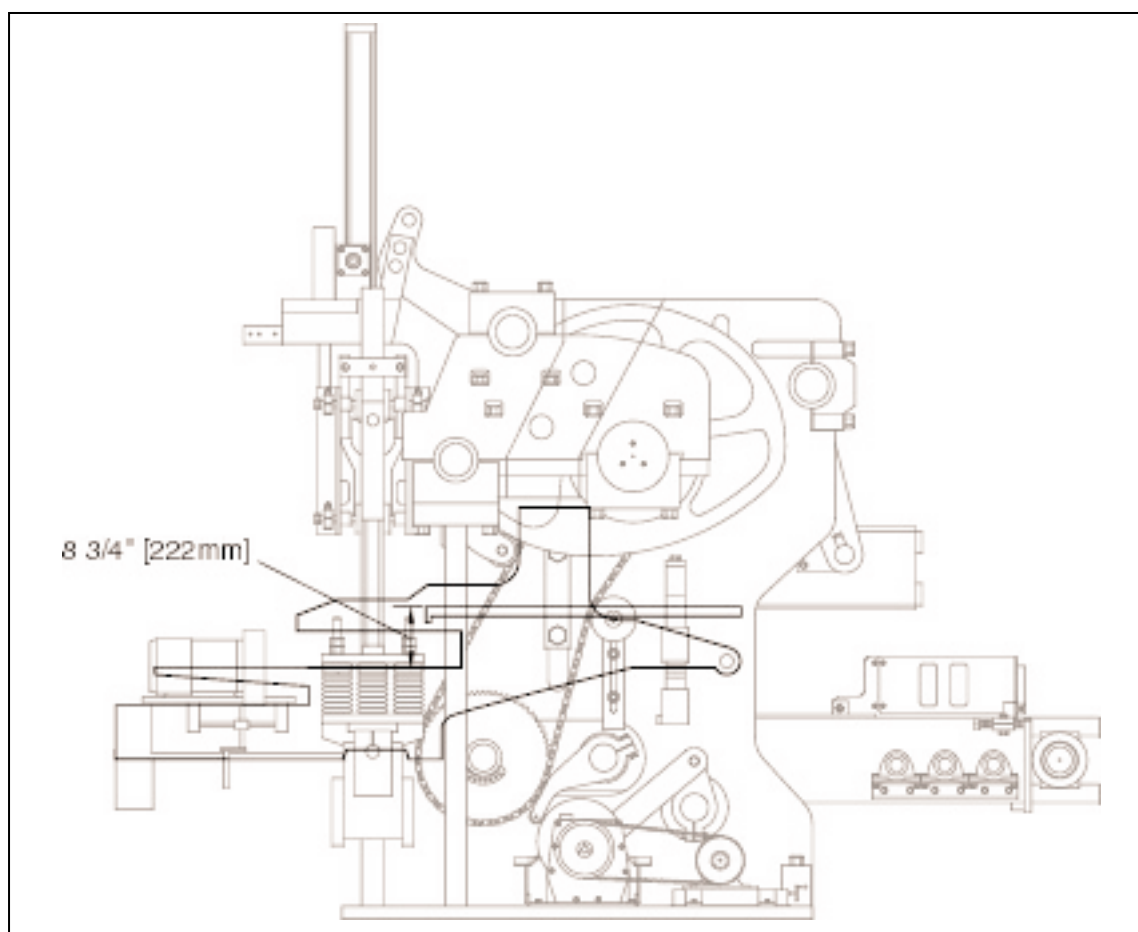

Figure 4.41 APRON PLATE ABOVE MOLD THROAT ADJUSTMENT.
4.3.3 Reconnect autofeed linkage and adjust so that the top of the apron plate is **222mm [8 3/4"]** above the mold throat at the lowest position of the autofeed (see figure 4.41). To adjust, lower or raise the autofeed until apron plate is in correct position.